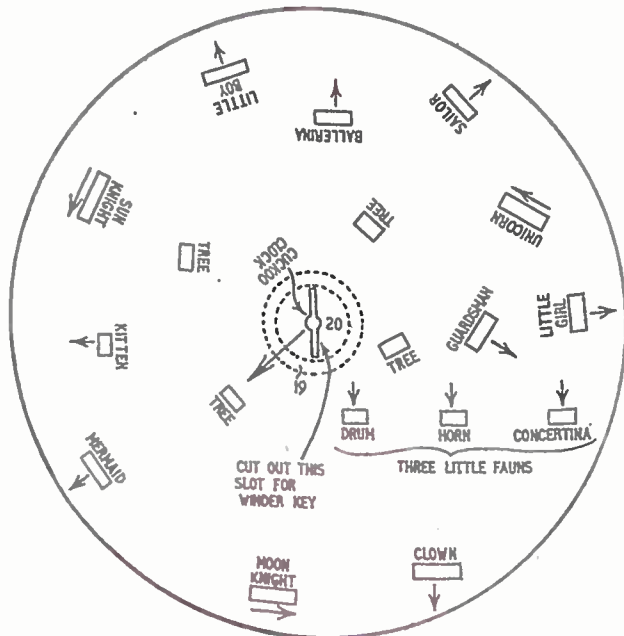

Fig. 1
With the figures all prepared, the next stage is to cut out the circular baseboard (18) from 3/4 in. wood, making it 7 ins. diameter (Fig. 1). In the centre, a hole and slot must be cut, so that the winder key fits into this tightly. This must be a pressed fit in order to ensure rigidity of assembly.
The positions of the figures as they appear on the baseboard are seen in Fig. 1, and the mortises in the baseboard can be marked from the tenons on the figures. When these mortises have been
board to take the needles. Extra support for the needles can be obtained by a dab of cement on the back of the knights. Ensure that the figures are facing the correct way by studying the arrows in Fig. 1.
The cuckoo clock is the final piece to be added to the roundabout. The pole for this is glued into pieces 19 and 20, and this assembly is then glued in turn over the top of the winder key (Fig. 1).